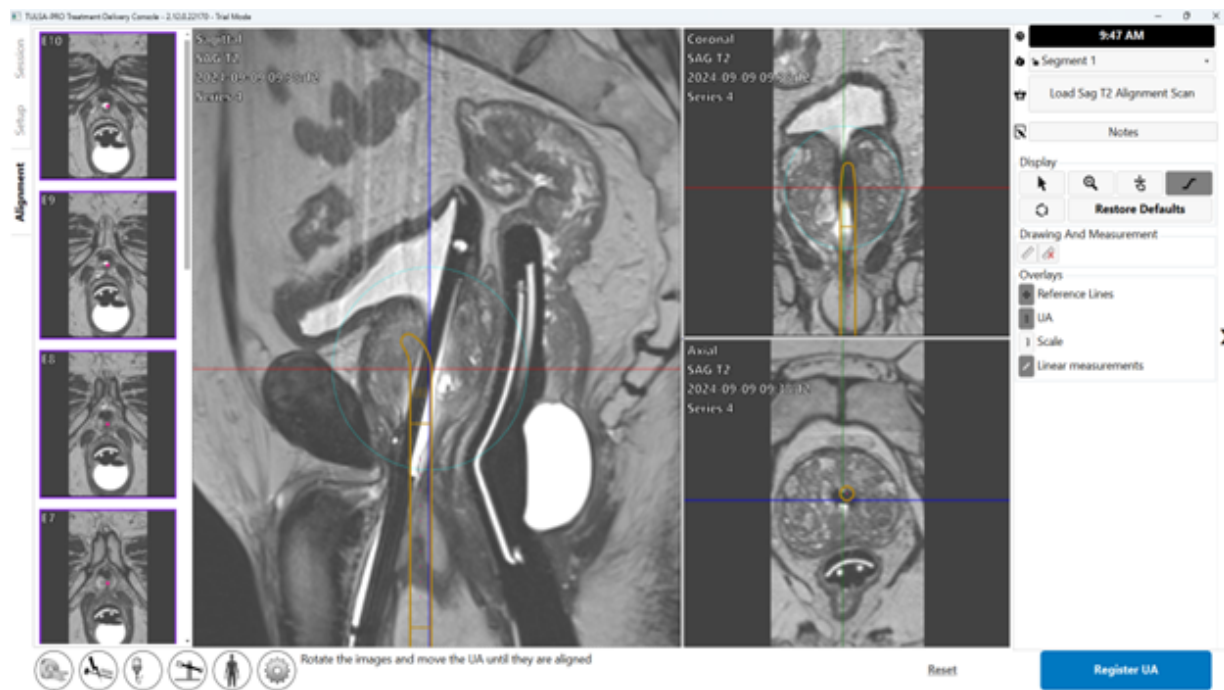
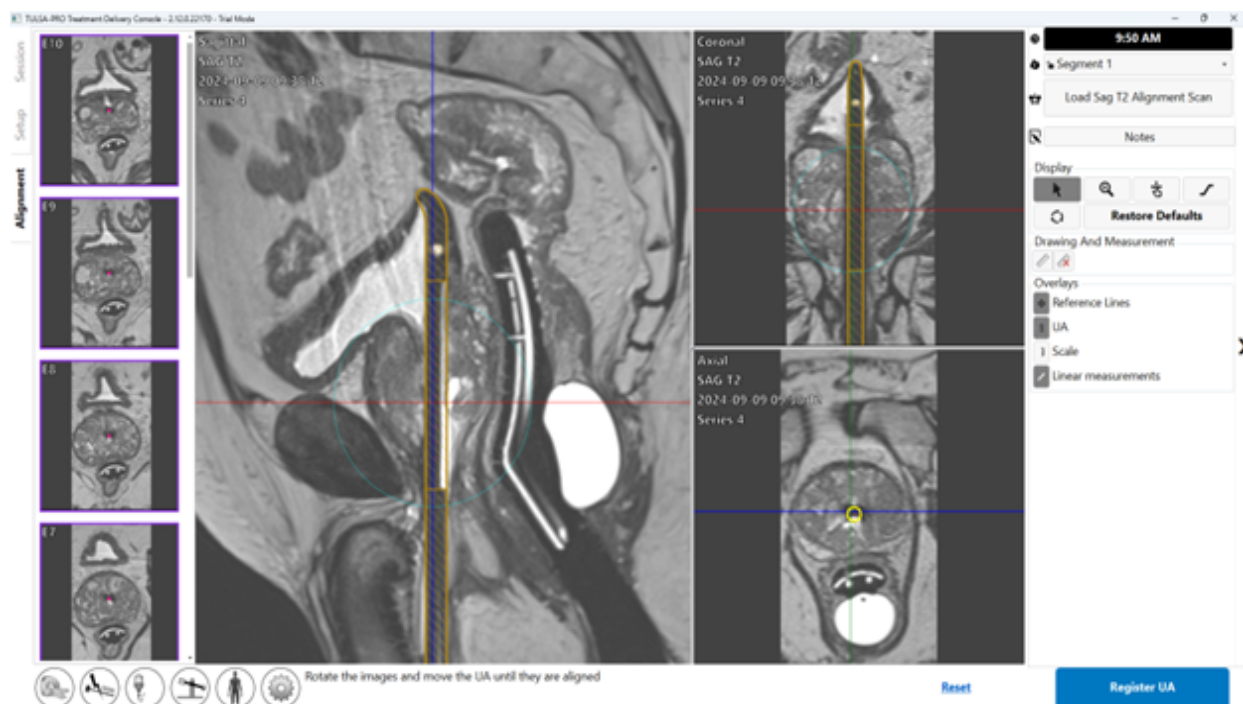

Figure 33: UA before alignment
Figure 34: UA after alignment
**Radiologist:** Use the Alignment workspace to define the location and angulation of the UA in the TDC software by aligning a graphical representation of the UA with the actual UA on the MRI image in three dimensions. Accurate alignment will be critical to safe and effective heat delivery within the intended tissue volume. See example below of the UA in MR images before (*Figure 33*) and after (*Figure 34*) Alignment.